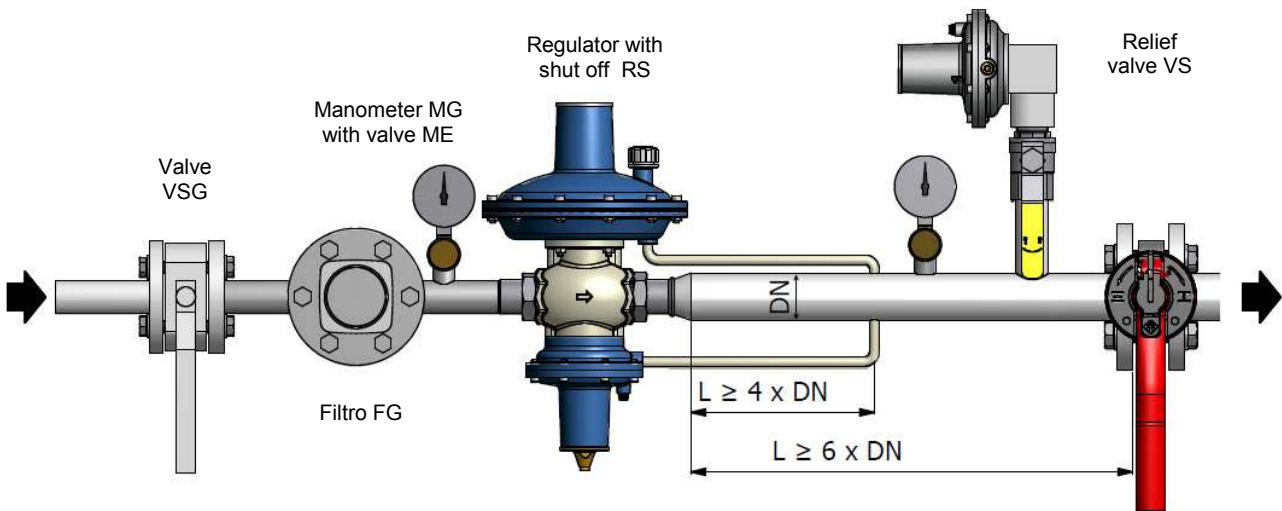

Fig.2 – example of installation with other Elektrogas devices
- if external impulse line is necessary, connect it at a distance of at least **4xDN** from the regulator in a straight part of pipe (see fig. 2).